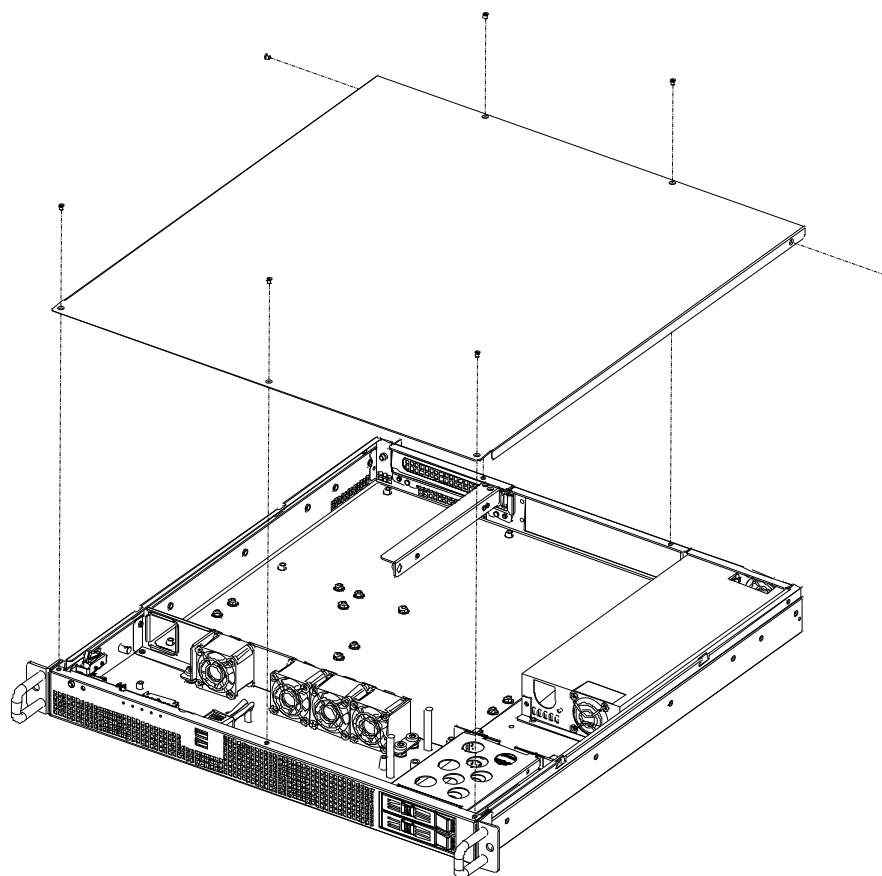

Figure 2.1 Removing the top cover/ 移除顶盖 / 移除上盖
1. Unscrew the five knurled screws on the top side and two screws at both right and left side. (see Figure 2.1)
1. 旋开 5 个顶盖上侧的以及 2 个位于左右两侧的螺丝。（如图 2.1 所示）